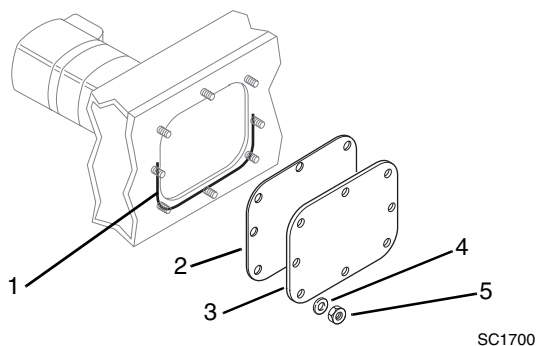

Figure 6-5 Access Cover Installation
9. Clean any sealer residue from the lower part of the access cover opening (Fig. 6-5, 1). Apply a new 1/8" bead of sealant (1) such as Permatex 2 RTV around the lower half of the opening.
10. Reassemble the cover gasket (Fig. 6-5, 2) and cover (3) to the side of the chain case using the original washers (4) and new hex locknuts (5). Torque the eight locknuts to 14 lb/ft (19 Nm).